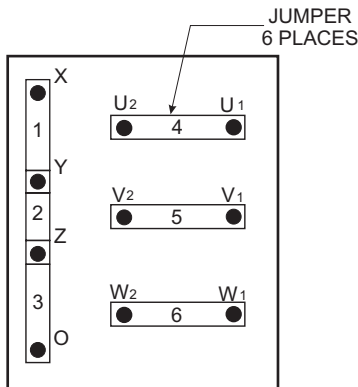

Figure 26. Voltage Change-Over Board
1. Jumper the voltage change-over board for 240V operation as shown in Figure 26.
1. Make sure the voltage change-over board is jumpered for 240V operation as shown in Figure 26.